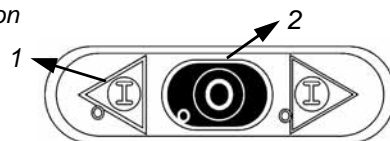

Fig. 5.3.1
5.3 - Check the efficiency of the stop button (fig. 5.3.1)
5.4 - Starting the machine (fig. 5.3.1)
"1" Figure 5.3.1, after having properly connected the plug to the electric mains supply and the machine is activated.
5.5 - Stopping the machine (fig. 5.3.1)
To stop the machine, press the stop button, "2" Fig 5.3.1 and the machine stops